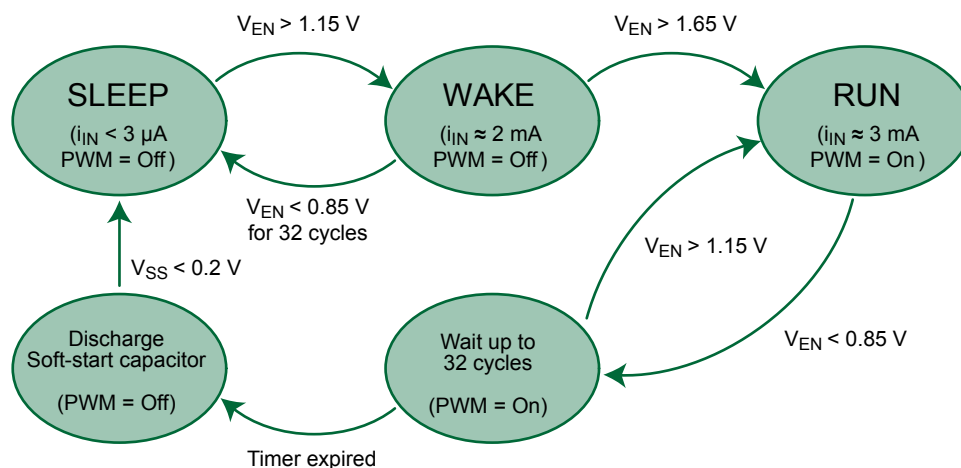

Figure 3. EN/SYNC voltage and A8583 operating modes
- A simple logic input. If EN/SYNC is a logic low ($V_{EN/SYNC} < V_{ENIL}$), then the A8583 and VOUT will be off. If EN/SYNC is a logic high ($V_{EN/SYNC} > V_{ENIH}$), the A8583 will turn on and, provided there are no fault conditions, soft start will be initiated and VOUT will ramp to its final voltage in a time set by the soft start capacitor (CSS). (The operating modes of the A8583 based on EN/SYNC voltage are summarized in figure 3.)
The A8583 protects itself from over-heating, with an internal thermal monitoring circuit. If the junction temperature exceeds the upper thermal shutdown threshold (T_{TSD} , nominally 165°C) the voltages at the soft start and COMP pins will be pulled to GND and both the upper and lower MOSFETs will be shut off. The A8583 will stop PWM switching and stay in WAKE state (see figure 3). It will automatically restart when the junction temperature decreases more than the thermal shutdown hysteresis (T_{TSDHYS} , nominally 20°C).